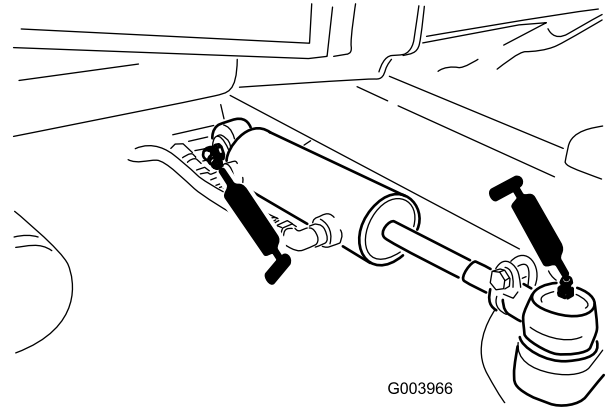

Figure 72
- Steering-cylinder ball joints (2) (Figure 72)